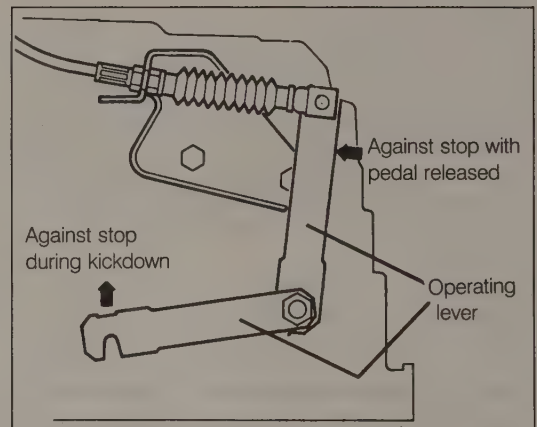

Fig. 4-8. Operating lever showing positions used for cable adjustment on diesel engine with automatic transmission.
4. With the transmission operating lever held against its closed throttle stop (pedal released) as indicated in Fig. 4-8, hold the injection pump's speed control lever against the idle speed adjusting screw.